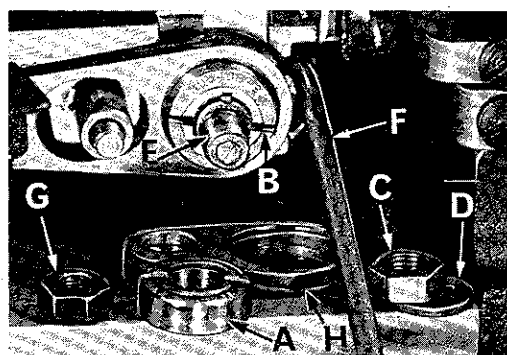

Fig. 13
If eccentrics are unusually tight fitting, in addition to removing nut (C, Fig. 13) and washer (D) from shaft (E), it may be helpful to remove nut (G) and feed driving connection (H). Then continue as originally suggested.